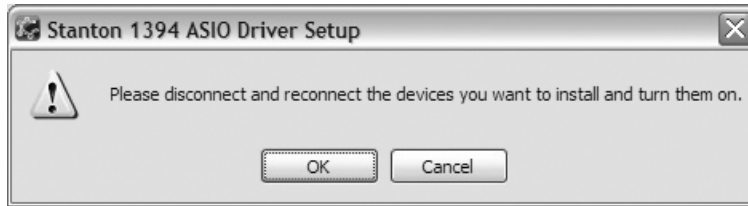

Figure 4.7
7. Files will begin to copy or if you are installing a new driver the old drivers will be uninstalled before new files are copied. When prompted to connect your devices (Figure 4.7), turn ON all SCS.1 devices to be used and then connect the FireWire cable from the device(s) to your computer and click **OK**.